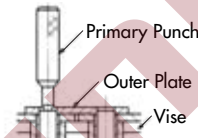

Figure 10: Tapping Pin with Primary Punch
1) Using a primary punch suitable for the chain size, place the punch on the head of the pin that was ground down and strike with a hammer. Be sure to strike the pins on the outer link alternately to remove them evenly and at the same time. Strike the pins until they are just about to release from the outer plate (Figure 10).